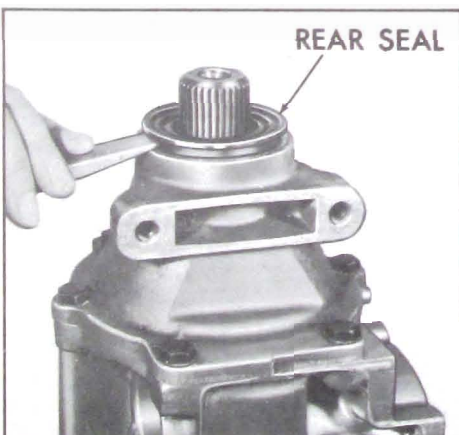

Figure 5-533
1. If necessary to replace, pry the rear oil seal from the extension housing. See Figure 5-533.